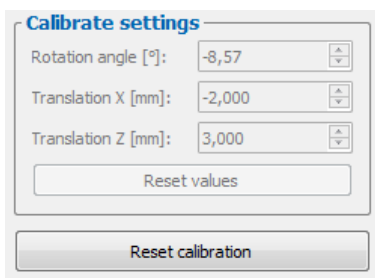

Fig. 4.40: "Reset calibration" button
**Note:** In order to adjust the transformation or to store a new transformation on the scanCONTROL measurement system, initially use the "Reset calibration" button (see Fig. 4.40) in order to clear the current transformation.